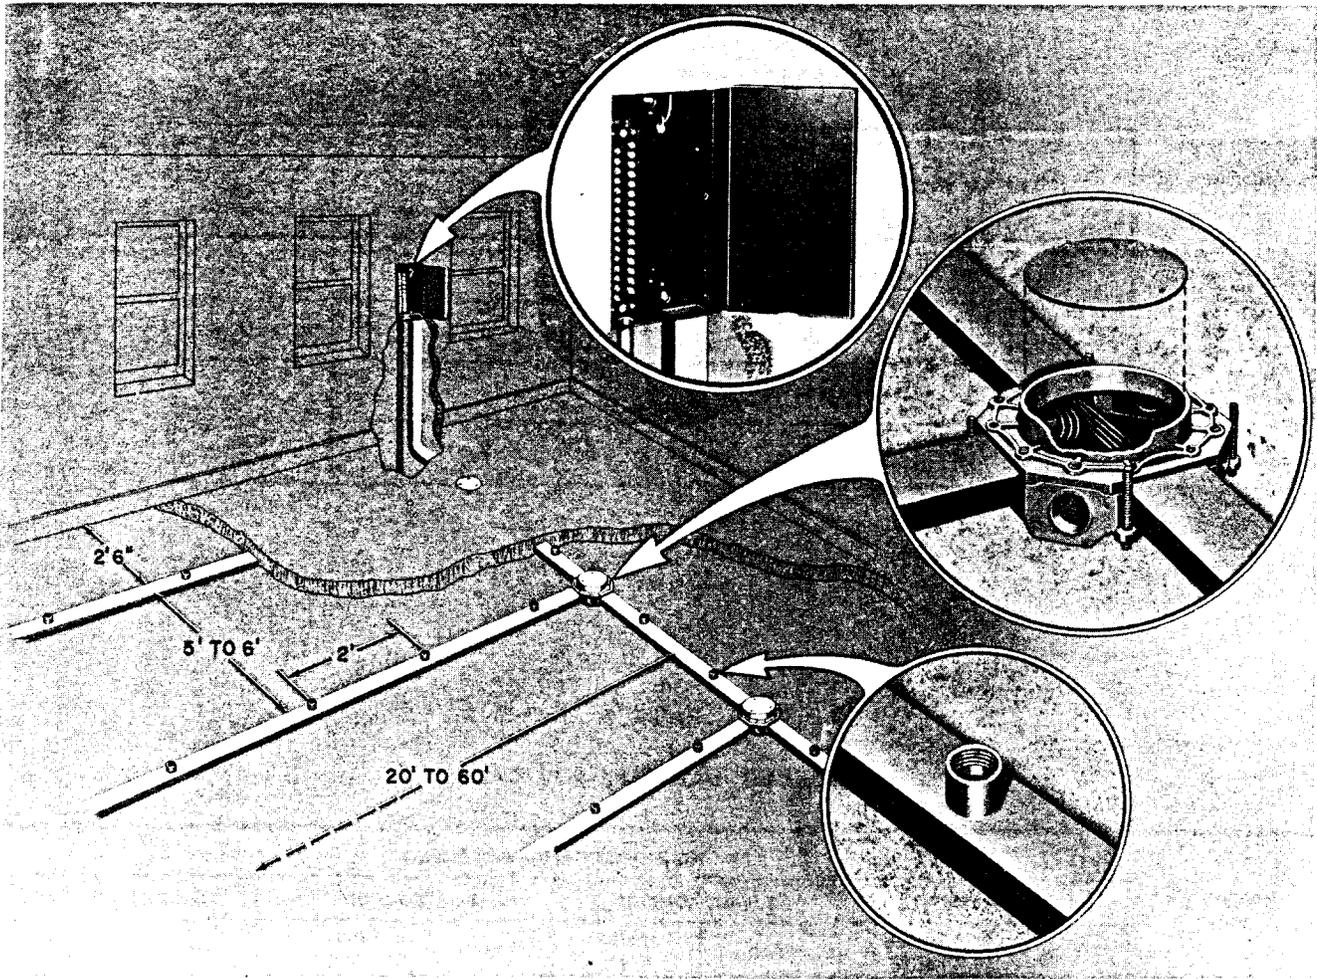

Fig. 2—Gridwork Underfloor Duct System
2.04 The gridwork system (Fig. 2) consists of a series of parallel branch ducts with junction boxes at the intersection of cross ducts. An outlet provided with a removable cap will be found in the floor every 24 inches.